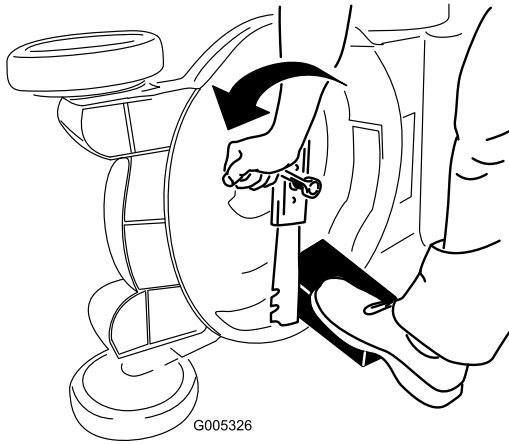

Figure 46
3. Use a block of wood to hold the blade steady (Figure 46).
4. Remove the blade, saving all mounting hardware (Figure 46).